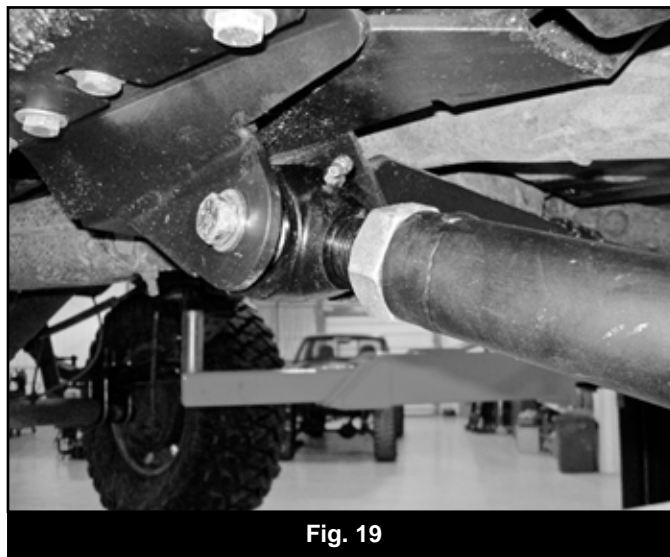

Fig. 19
50. Install the adjustable end of the lower control arms into the new lower control arm pockets in the crossmember (Fig 19). Loosely fasten the arms with 9/16" x 4-1/2" bolts, nuts and 9/16" SAE washers (BP 715).